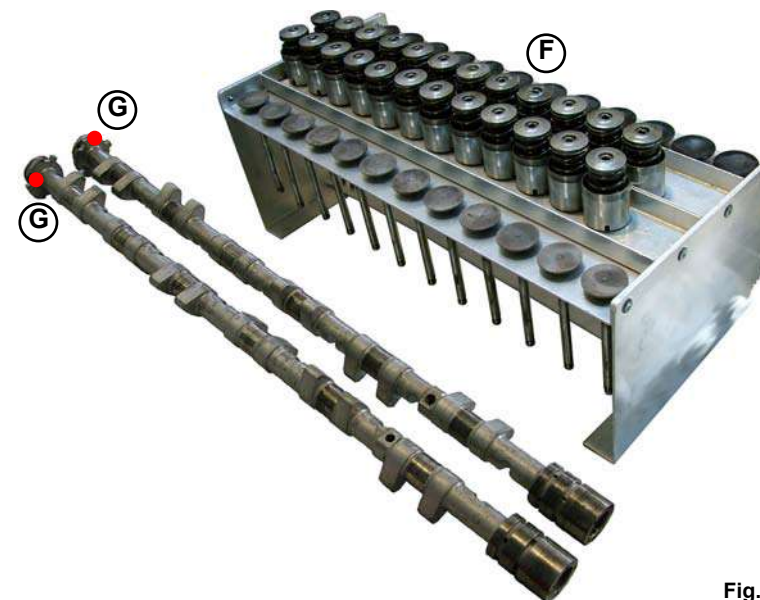

Fig.6
5. Clean the tappet, spring and shim pack (**F-Fig.6**) in the following order:
7. To clean the oil holes (**G-Fig.6**) on the camshaft, blow and then use a wire to completely clear any blockages.